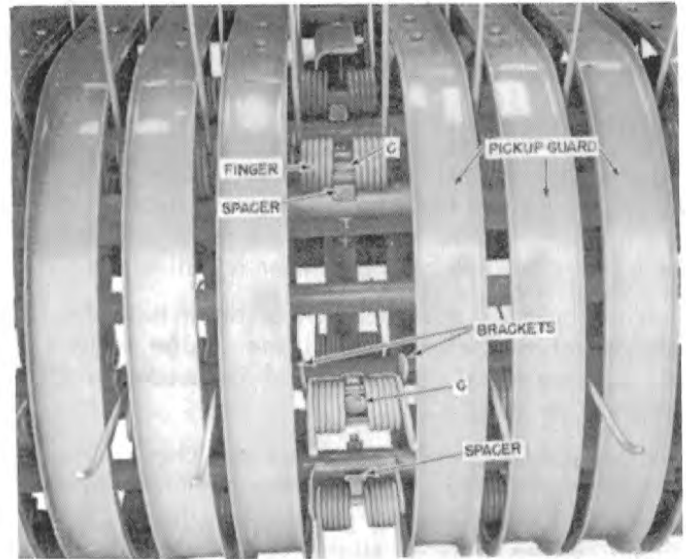

FIGURE 61A
Figure 61A shows the attachment of the pickup finger to the pickup tooth pipe.
1. Remove the four capscrews holding the pickup guard, and remove the pickup guard as shown in Figure 61A.
4. Install the brackets and spacer as shown in Figure 61A with the new pickup finger.